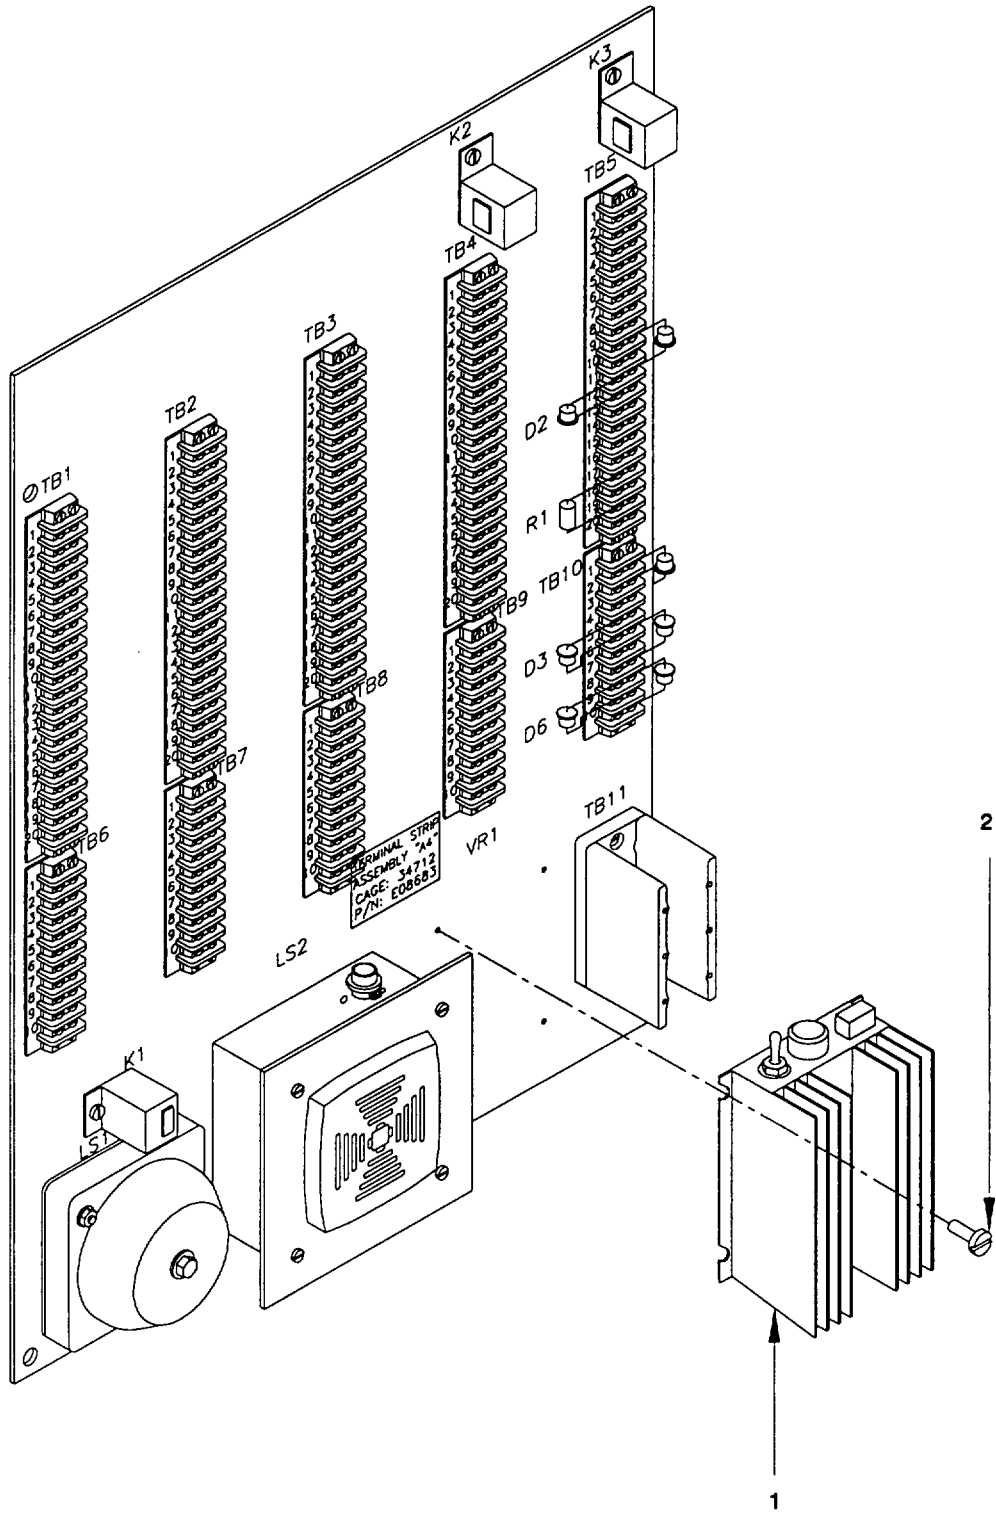

Figure 2-138. Converter, Terminal Strip "A4", Remove/Install.
- a. Remove. (figure 2-138)
- (1) Tag and disconnect wiring from the converter (1).
- (2) Remove the pan head screw (2) to free the converter (1) from the terminal plate.
- b. Install. (figure 2-138)
- (1) Apply antiseize compound to pan head screws (2), position the converter (1) on the terminal plate, and secure with pan head screws (2).
- (2) Connect wiring to converter (1) as previously tagged. Refer to Terminal Strip A4 Assembly in Appendix G for wiring diagrams. Use tie wraps and mounting bases to secure any loose wiring.